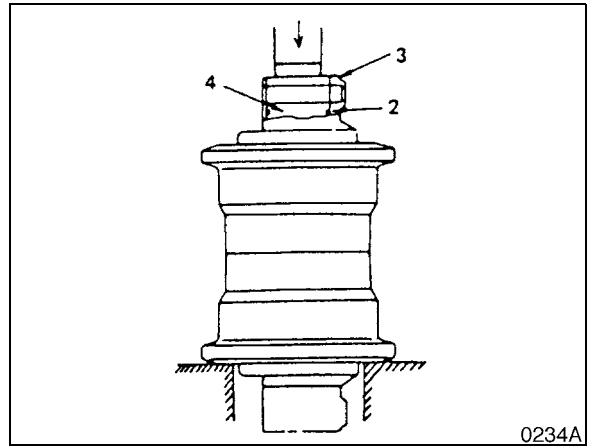

Figure 30
3. Separate the collar (3, Figure 30) from the axle, using a press.